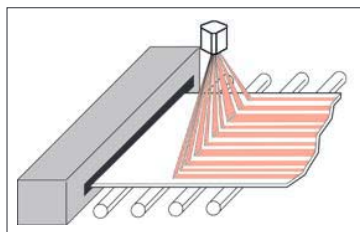

Fig. 3: Spot Mode: Ten Spots defined across target. Spots can be defined by Ircon Configurator or SpotMaster software.
The spot mode is used typically for continuous processes such as a web of plastic, strip of steel, or ribbon of glass. They have no finite beginning or end and no observable leading edge or trailing edge. The ScanIR II sensors let you define up to ten (10) different spots across the surface of any continuous target (see Figure 3 below).